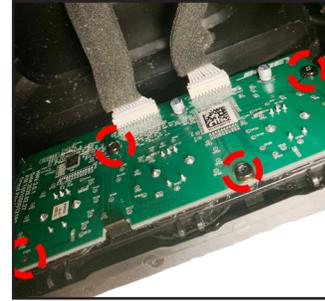

Figure 22. Volume Board Screws Removal
6.2 Remove the 4 screws that secure the Volume board as indicated in Figure 22.